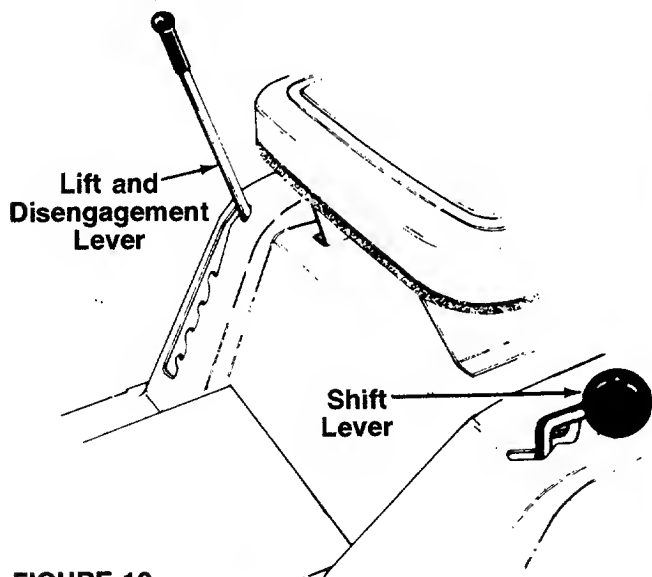

FIGURE 12.
The shift lever is located on the left fender and has three positions, FORWARD, NEUTRAL and REVERSE. See figure 12. The clutch-brake pedal must be depressed and the lawn tractor must not be moving when shifting gears. Do not force the shift lever. Release the clutch-brake pedal slightly to line up the shifting collar in the transmission. Then try to shift gears.
The lift and disengagement lever is used to raise and lower the cutting deck which determines the cutting height. Pulling it all the way back and locking it disengages the blades. The lift and disengagement lever **must** be in the disengaged position when starting the engine, when shifting into reverse or if the operator leaves the seat. See figure 12.
3. Place the lift and disengagement lever in the DISENGAGED position. See figure 12.